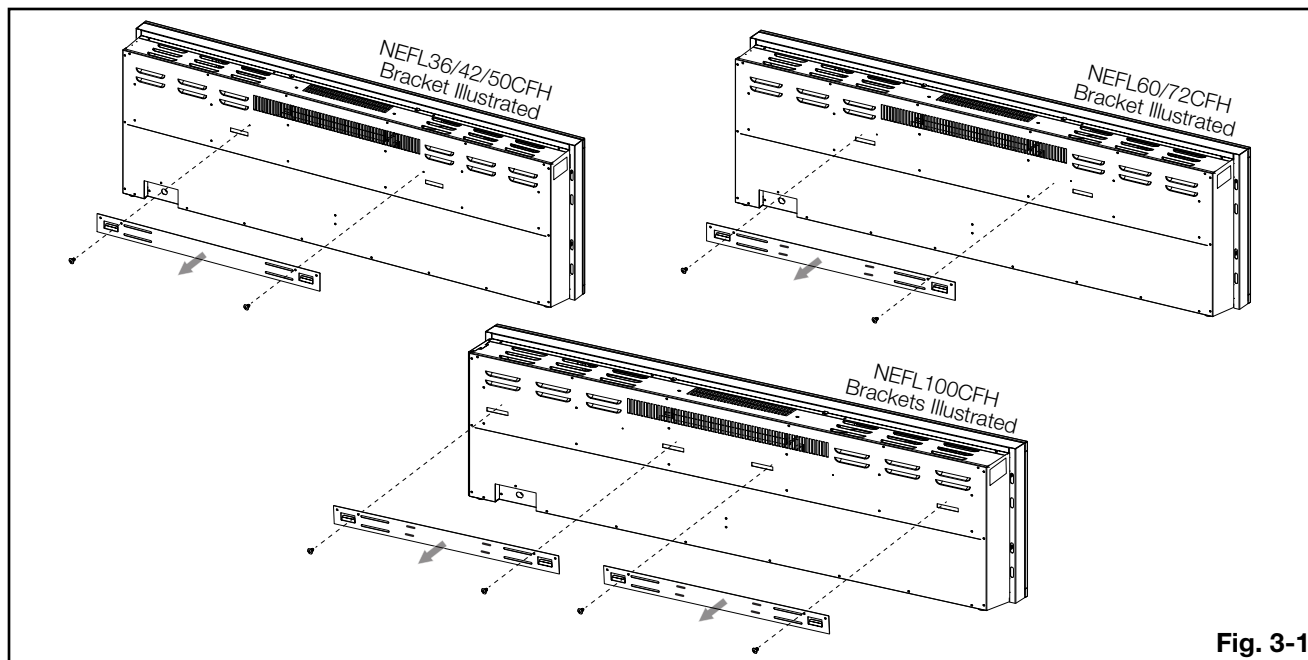

Fig. 3-1
- Place the appliance face down on a soft, non-abrasive surface. Remove the bracket from the back of the appliance by removing the screws (**Fig. 3-1**). Set the bracket aside and discard the screws.